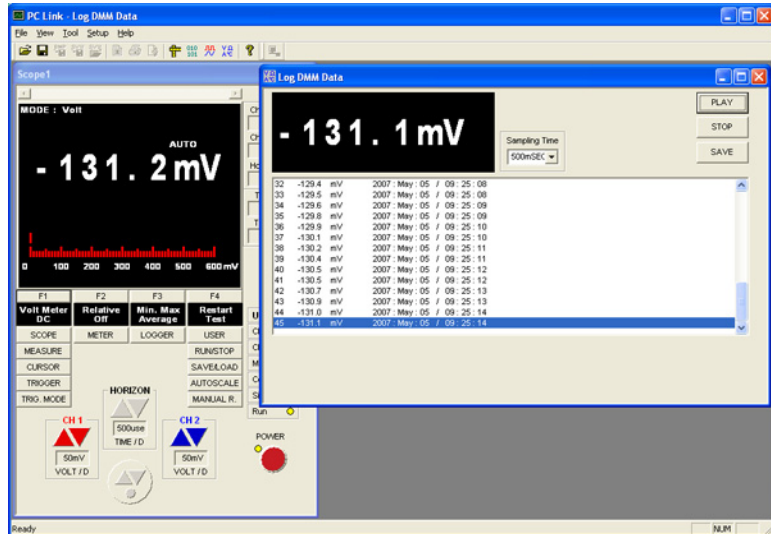

Figure 17 DMM data logging window
- 1 To enable the Log DMM Data window, click the  button on the toolbar or select DMM Data in the Tool drop-down menu. The DMM data logging window is shown in Figure 17.